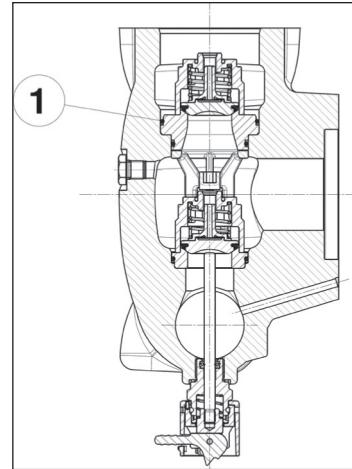

Fig. 111
Pay special attention to fitting the O-ring shown in pos. ①, Fig. 111.